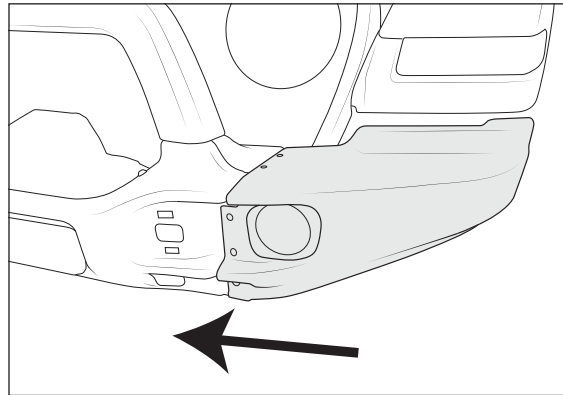

Figure 25
1. Carefully slide corner assemblies in from the side of the bumper, being careful not to damage the fog light lenses as the edge slides across it (this is where the masking tape is critical). Corner outer stamping will shell over center section. Back side of corner weldment will fit tightly against the main weldment, so an extra set of hands may be helpful to guide it over the M8 u-nuts at the rear. A slipper bar can also be helpful to get all the holes aligned (fig. 25). Be careful not to push the corner on too far and don't lift the outer end during installation. This can cause the sharp edge on the corner stamping to damage the coating on the mating pieces and lead to premature corrosion if installed improperly.